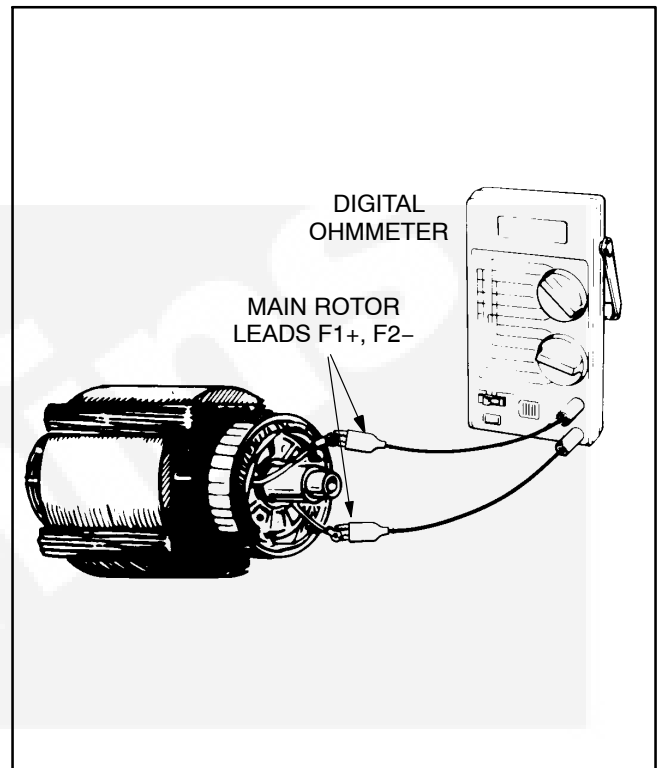

FIGURE 6-7. TESTING WINDINGS RESISTANCE
- Using an ohmmeter, measure the resistance between F1+ and F2- (see Figure 6-7).